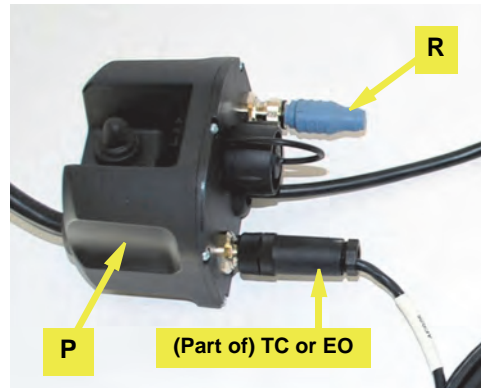

Figure 6d: CAN harness and terminator connected to junction box
e. Connect the threaded 5-pin connector on the CAN bus harness **TC** (eDriveTC) or **EO** (eDriveX) to either of the threaded connectors on the junction box **P**. Connect the CAN bus terminator **R** to the other threaded connector on the junction box (Figure 6d).